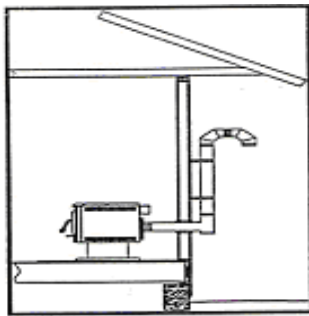

Figure 15
2. **Horizontal, out the wall, then vertical to a minimum of 5 feet**, into a 90-degree elbow and terminating with a 45-degree elbow pointed downward. Figure 15